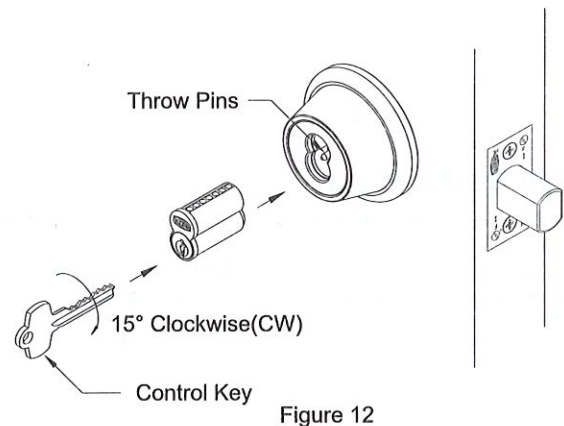

Figure 12
- Put the control key into the core and turn the key **15° clockwise(CW)**. See Figure 12.